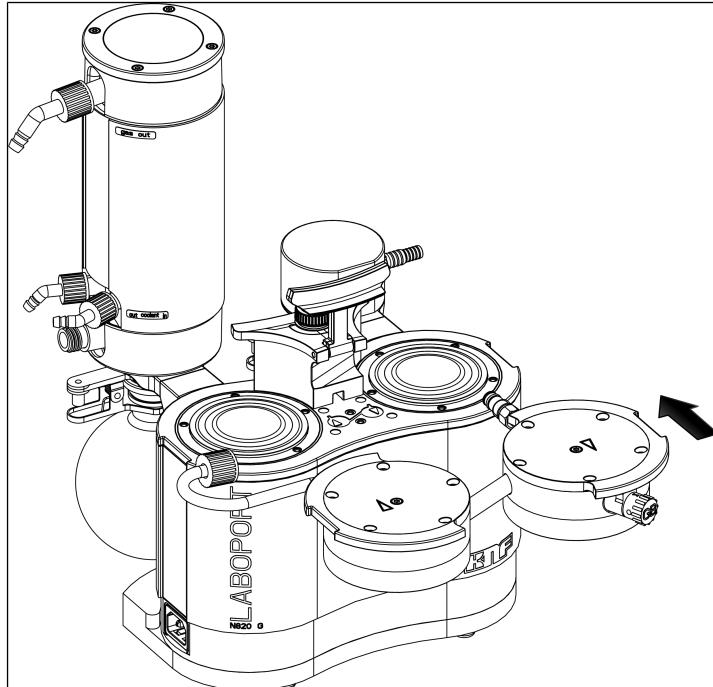

Fig.16: Fit pump head
1. Move the diaphragms (7) to the center position.
2. Press down on the edge of both diaphragms (7) all the way around.
3. Place the head plate (3) on the intermediate plate (6) in line with the locating pin (5).
4. Place the pressure plate (2) on the head plate (3) according to the pencil line.
5. Tighten the internal head screw (1) in the center of the pressure plate (tightening torque: 1 Nm).
7. Place the two pump heads (consisting of head plate (3), intermediate plate (6) with valve plates/seals (4) and pressure plate (2)) together with the connection tube on the pump housing according to the pencil line (see Fig. 16).